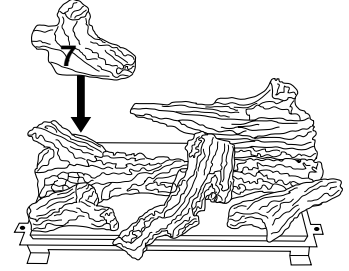

Figure 47 - Installing Log No. 7
5. Place back end of log #7 (left rear log) onto pin on left rear burner and rest front onto log #1 as shown in Figure 47.